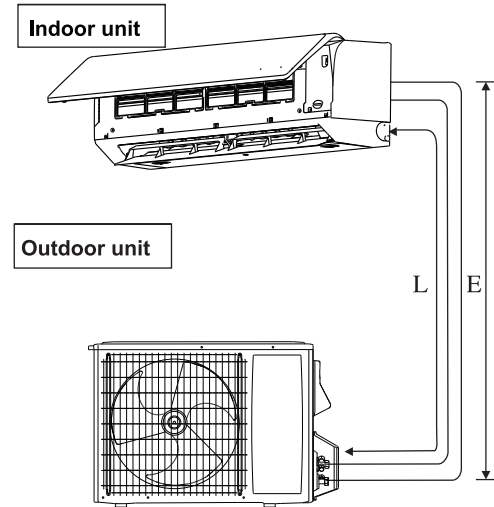
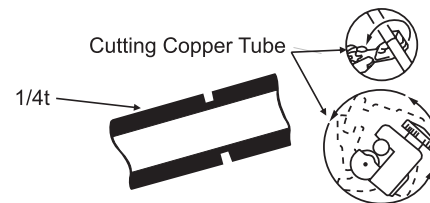

Fig 1.
Fig 2.
3. Wrap the inter-unit wire, refrigerant pipes, and drain hose together with insulation tape. (see Fig 1)
### 4. Bottom or side piping (see Fig 2)
- Cut the pipe as straight as possible (See Fig 1.). Make sure to use a deburring tool to remove any burrs. Hold the pipe with opening facing down to prevent metal chips from entering the pipe (See Fig2.).